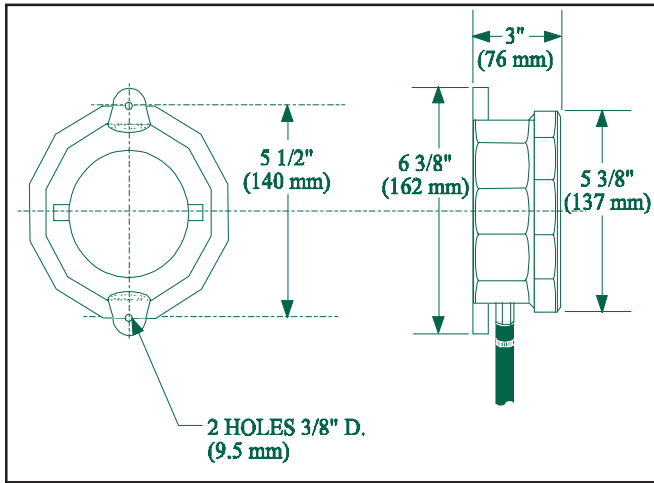

Figure 1. Dimensions
1. Mount the Adaptabuzzer assembly securely to a flat surface in the desired location with (2) screws through the 3/8" (9.5 mm) diameter holes in the housing (Figure 1).